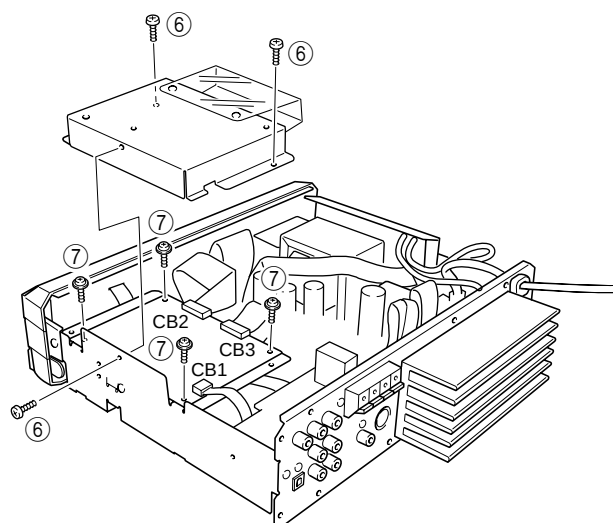

Fig. 4
- Remove 3 screws (⑥). (Fig. 4)
- Disconnect the flexible flat cable (CB1) from DIGITAL P.C.B. (1). (Fig. 4)
- Remove 4 screws (⑦) and then remove DIGITAL P.C.B. (1) from the DSP Bottom Cover. (Fig. 4)